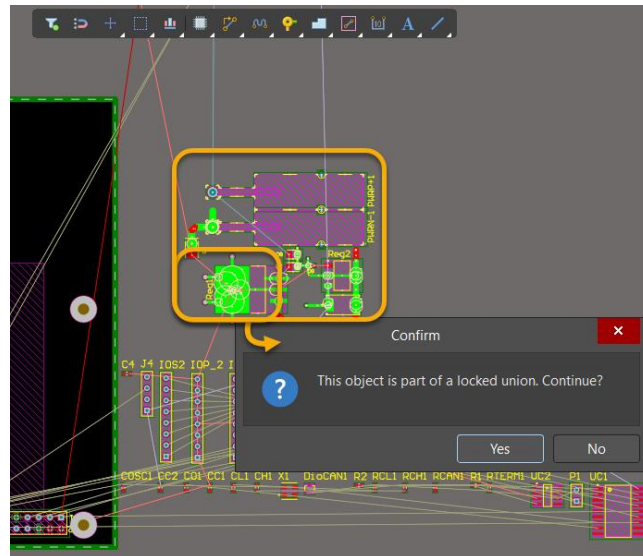

Figure 8. Reg1 member of the Union Power Supply WCTopping reuse block
30. A message to confirm that you want to continue the move command pops up, accept with **YES**, Figure 8.